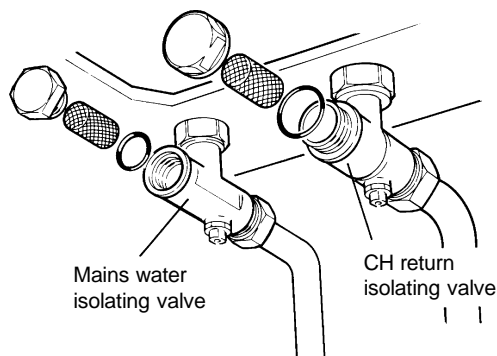

Fig. 37
8.36 MAINS WATER INLET VALVE FILTER - Fig. 37
8.37 HEATING RETURN FILTER - Fig. 37